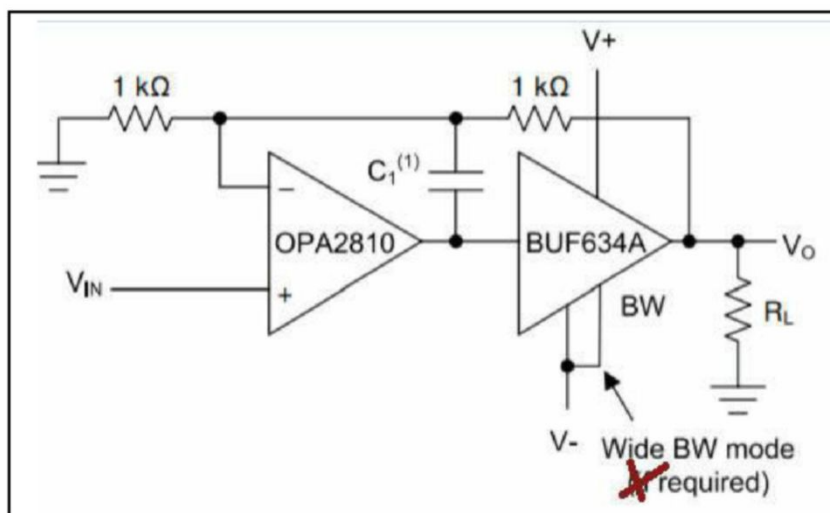
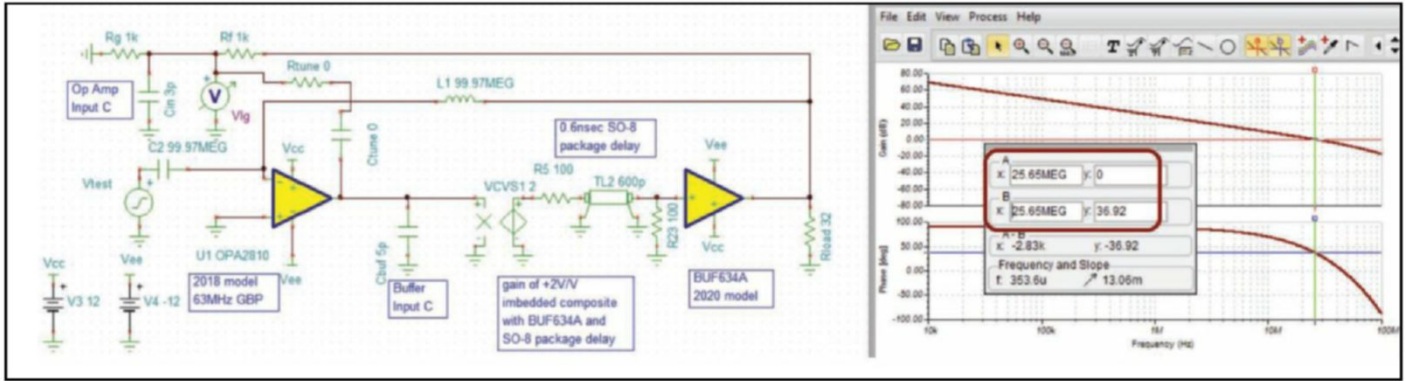
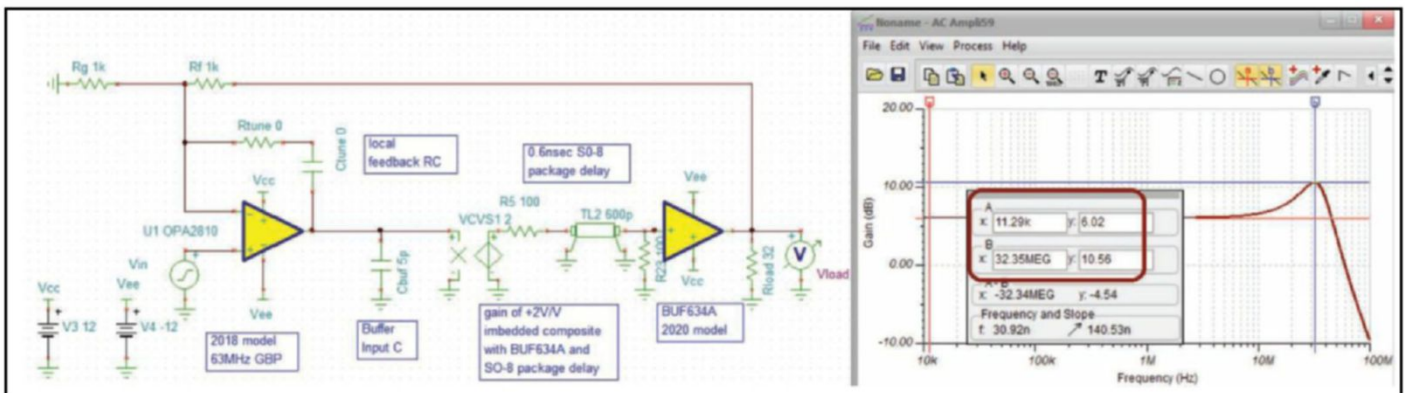
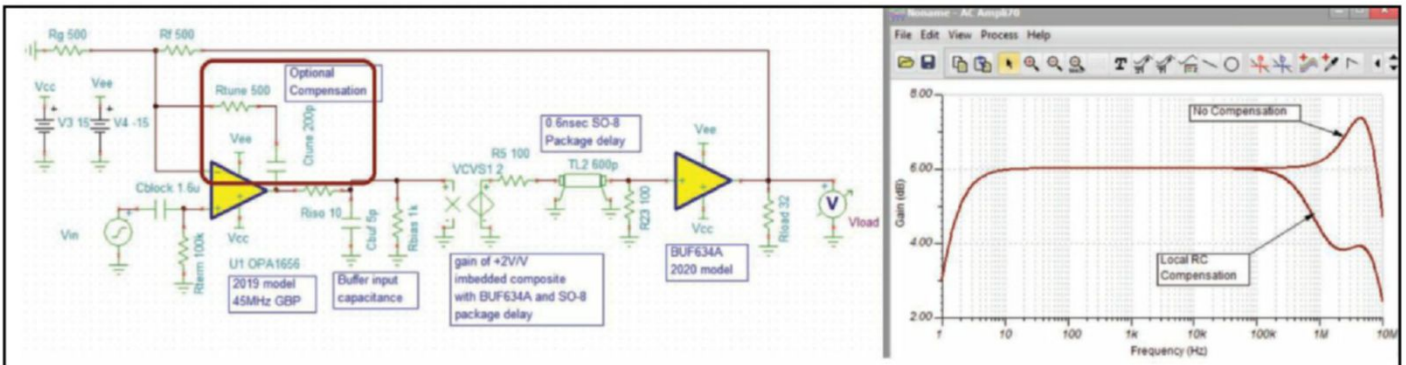

Figure 1: Typical imbedded current boost buffer design using the JFET input OPA2810 and BUF634A, providing a gain of +2V/V
Figure 2: Loop gain (LG) simulation for the composite circuit of Figure 1
Figure 3: Closed-loop response peaking due to the 37° phase margin for this composite design
Figure 5. Alternate composite using the OPA1656 JFET input op-amp
A common approach to increasing the output current for an audio op-amp is to imbed a unity gain buffer inside the loop where that buffer offers a much higher output current than the core op-amp. Here, both general considerations and specific suggestions for successful implementation will be shown using a recently updated BUF634A buffer applied as shown in **Figure 1** (Reference 1, Figures 9-7).
- The buffer bandwidth and slew rate should be much greater than the core amplifier for stable operation. The BUF634A offers a supply current adjustment to lower quiescent current. That feature should probably not be used, as reducing supply current drops both bandwidth and slew rate, impairing loop dynamics—and is a feature not supported in the public BUF634A simulation model. The older BUF634 model does support this feature and shows a rapid loss of loop gain (LG) phase margin if used in the design of Figure 1.
- Ideally, the available output voltage swing in the buffer stage should meet or exceed the available output swing from the op-amp output. The circuit of Figure 1 uses a rail-to-rail output OPA2810 on the same supplies with the BUF634A having 1.8V to 2.5V output headroom to each supply depending on output current. If the OPA2810 outputs drive beyond the buffer swing limits, the loop will open up and might not gracefully recover. Using higher supplies on the buffer, or more closely matching output swing range between the op-amp and the buffer, might be prudent. Controlling the input V_{pp} to keep the buffer stage from limiting would also work.
in the requisite larger output devices (along with their much higher parasitic capacitive elements) immediately shows more open-loop response phase shift and reduced phase margin (as with any imbedded power stage design like Figure 1). That normally leads to compensating the dominant pole back to a lower gain bandwidth product. There are features in this higher output current stage that usually don't matter since error terms like noise and DC offsets will be corrected by the main op-amp loop.
If the imbedded power stage (maybe a unity gain buffer like Figure 1, or it could be an amplifier stage as well) adds only a small phase shift at the unity gain crossover of the overall op-amp loop, a stable solution is likely. It helps in Figure 1 that the OPA2810 is set up for a noise gain of 2V/V pulling its LG 0dB crossover (xover) back in frequency. Where that is not the case, and the phase shift (or delay) in the power stage adds significant phase shift at xover, a more detailed analysis is merited. A low phase margin design will be producing a peaked closed-loop response and may slip over into oscillation across different loads, temperature, and production variation. Often, this happens well above the intended audio frequency of operation, but it
Focusing on the "delay" introduced inside the feedback loop by this buffer, it is important to implement a very tight layout and more generally consider the propagation delay added by the package. Public simulation models are for the die and do not normally include packaging issues. Bench measurements for the typical SO-8 packaging used for the BUF634A show approximately 0.6nsec package delay. That can be included in a LG simulation as shown in **Figure 2**, using a transmission line model prior to the buffer input.
This is implemented using a dependent voltage source at gain of 2 to recover the matching loss (100Ω Zo used here) in the transmission line model. The buffer input capacitance needs to be placed at the input of this delay block to include any interaction between that and the open-loop output impedance of the core op-amp. Leaving the feedback capacitor inside the loop at zero for now, Figure 2 shows an acceptable 37° LG phase margin for the circuit of Figure 1.
This should produce a closed loop peaking around 26MHz of ≈4.0dB (Reference 2, Figure 2). **Figure 3** shows this closed-loop response with the expected gain of 6.02dB gain at lower (audio) frequencies along with 4.5dB peaking at 32Mhz. While this peaking would be inconsequential in audio applications, it would add ringing to a broadband
Normally, this 4.5dB peaking with 37° phase margin would be an acceptable response. In other designs with lower phase margin, some form of compensation might be needed. Figure 1 shows a simple feedback capacitor, which can be effective if the main amplifier is unity gain stable. This small capacitor adds a low-pass pole with the R_F value and acts to bypass the power stage at higher frequencies closing the op-amp loop as a unity noise gain feedback. More generally, adding a series R_{TUNE} option in that feedback is preferred to shape the noise gain (NG) to a higher resistive ratio value at higher frequencies in case decompensated op-amps are being applied. Setting that compensation R_{TUNE}
The example power boost of Figure 1 operates as a non-inverting op-amp using a JFET input op-amp. This allows an AC coupled input to operate with a relatively higher terminating resistor allowing a lower blocking capacitor value. Using the concepts shown here, a more recent imbedded BUF634A composite can be adapted as shown in **Figure 5** (Reference 3, adjusting Figure 51) The OPA1656 offers phase lead in its Aol response giving a very comfortable 55° phase margin in the circuit of Figure 5 without the optional compensation. It is best to include places for the compensation RC in case the physical implementation needs them. Using the same approach as above (and placing the
compensation zero at $1/5$ of 8Mhz LG crossover) increases the phase margin to 62° and gives the broadband response shape of Figure 5. It is likely no compensation would be required for this implementation with the BUF634A operating in full power mode with a very tight layout. Again, if the load includes a capacitive element, this could quickly change and the optional compensation elements might prove very useful.